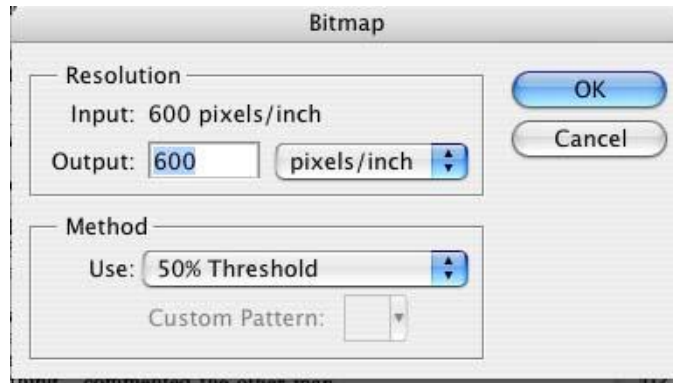

Figure 7b. Photoshop Thresholding
- Be sure that the output resolution matches the input resolution (the resolution of the scan). (*Figure 7b*)